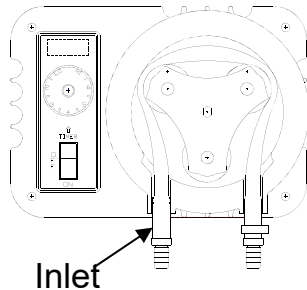

Figure 1
- 2) Jog switch intermittently between OFF and CONTINUOUS positions to move Roller to position as shown in Figure 1 then switch OFF. Roller will rotate clockwise when switch is in CONTINUOUS position.
- 3) Pull lower left end of Pinch Tube Assembly out of inlet port (as noted in Figure 1) and continue to pull away from Roller. Jog switch intermittently between OFF and CONTINUOUS positions to move Roller. Keep fingers away from rotating parts. Tube will be released as Roller rotates.